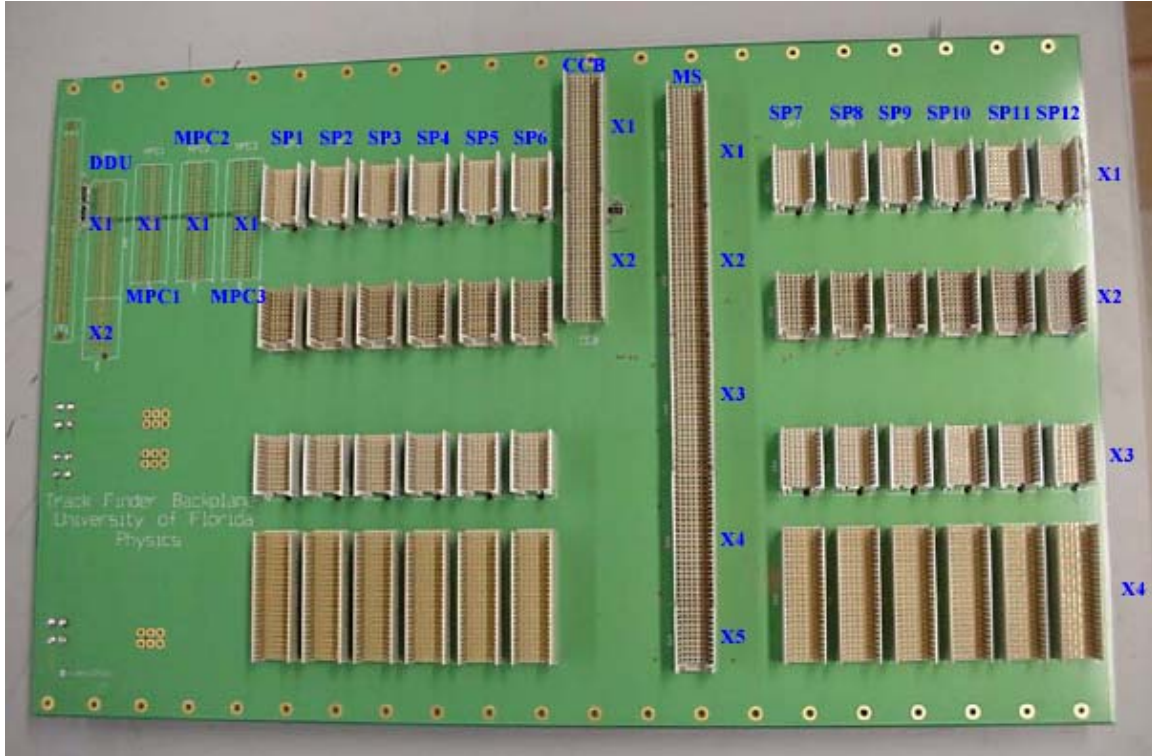
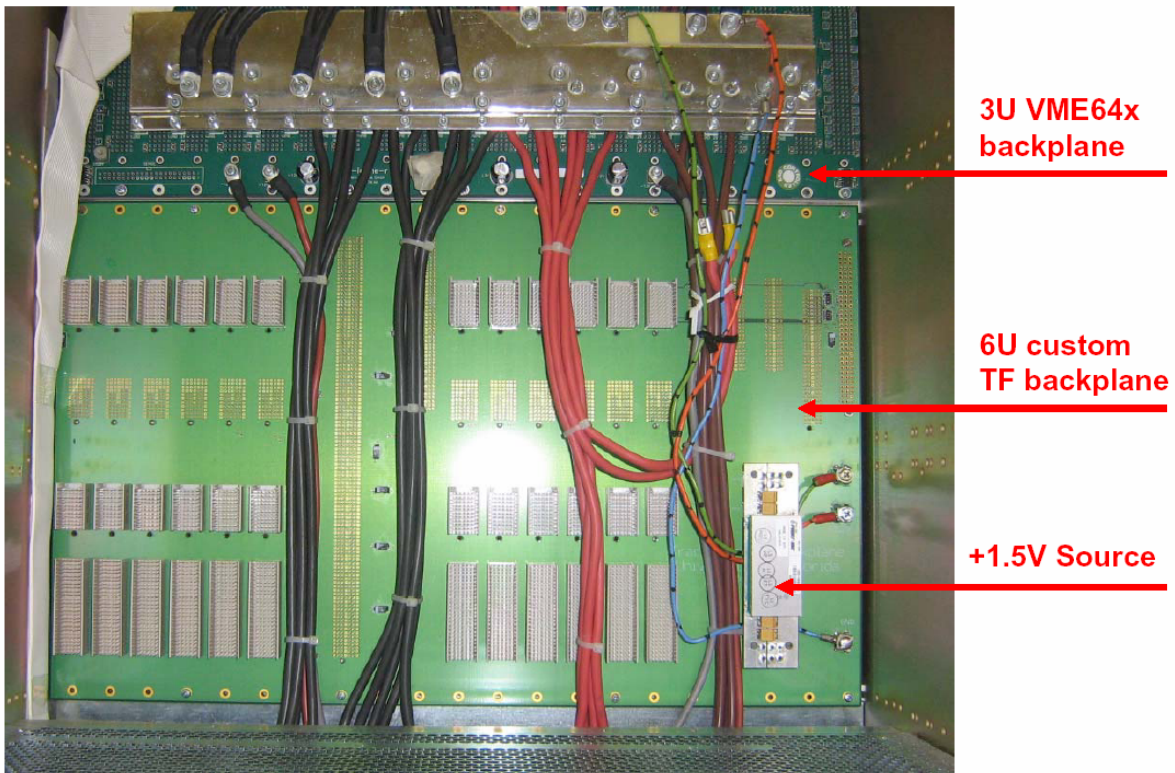

Figure 3: Track Finder custom 6U backplane, front view
Figure 4: Track Finder crate, rear view
The picture of the CSC Track Finder custom 6U backplane designed at the University of Florida, Gainesville (revision 2, production version, front view) is shown on Fig.3. This backplane is located in the Track Finder (TF) crate below commercial 3U VME64x backplane which utilizes the geographical addressing scheme as described in Table 6. The TF crate is a customized Wiener 6023 [3] part with the power supply that provides the +5.0V, +3.3.V and (optionally) +12V and -12V. The Wiener power supply is connected to 3U VME64x backplane with several wires as specified by Wiener. Three thick wires for the GND, +5.0V and +3.3V are required for connection between the VME64x and custom 6U backplanes. An additional custom mezzanine card (Fig.4) available from the University of Florida should be mounted on custom backplane to provide +1.5V for the GTLP terminators. Pin assignment of all female type metric (2 mm) 5- or 7-row Zpack connectors for the CCB, MS, SP, DDU and MPC slots is shown in Tables 7-11 respectively. Note the MPC slots are implemented only partially (compare with Table 2). The MPC may only receive the CCB 40MHz and 80MHz clocks and commands. The main goal of putting the MPC into the TF crate is to provide a source(s) of data for the SP boards for testing purposes.